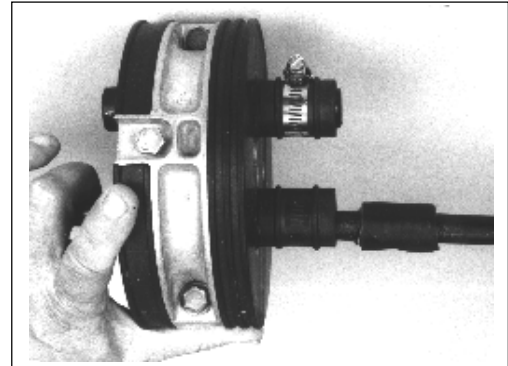

FIGURE 20 - COMPLETED LOCK-TAPE™ COLLAR
9.07 Stretch the LOCK-TAPE Sealant slightly while wrapping it around to form a collar. Wrap the LOCK-TAPE Sealant until the collar is slightly larger than the inner diameter of the neoprene boot on the outside of the factory installed entrance port. (Figure 20)